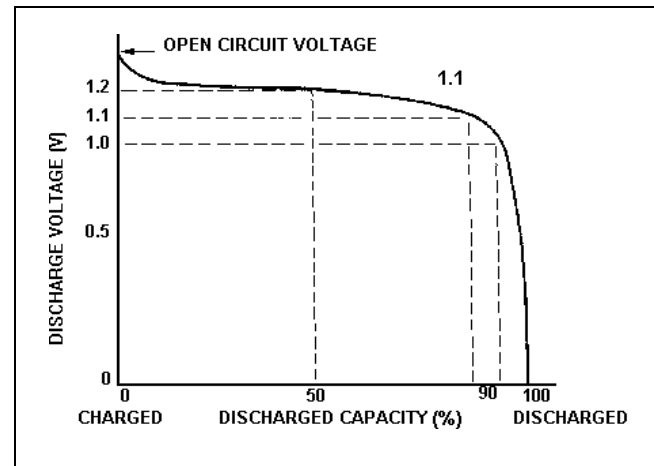

Figure 5 - Typical Cell Discharge Curve
1. Discharge the battery pack at a normal discharge rate until the output voltage is approximately 1 Volt per cell. This equals 6 Volts output for the battery packs. Refer to Figure 5. Note the flatness of the discharge curve from 0% - 90%. Experience shows discharging below the "knee" is not necessary.